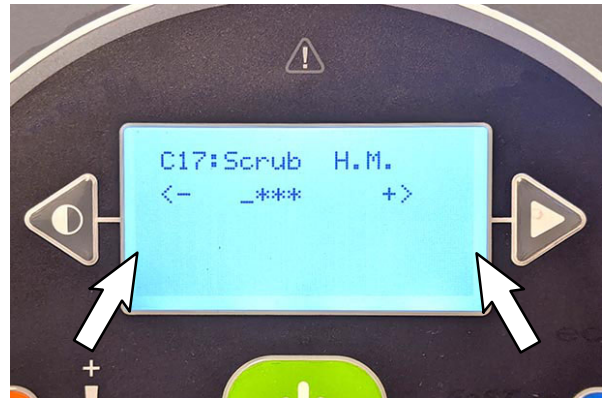

FIG. 34
- Press either the right arrow button or the left arrow button to scroll to C17: Scrub H. M. Press the main scrub brush pressure button to enter the C17: Scrub H.M. Log in screen. (Fig. 34)